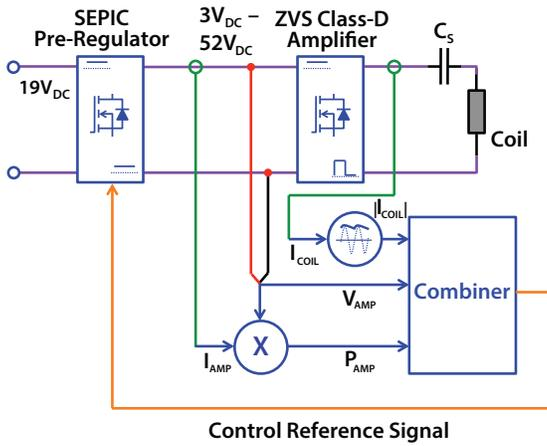
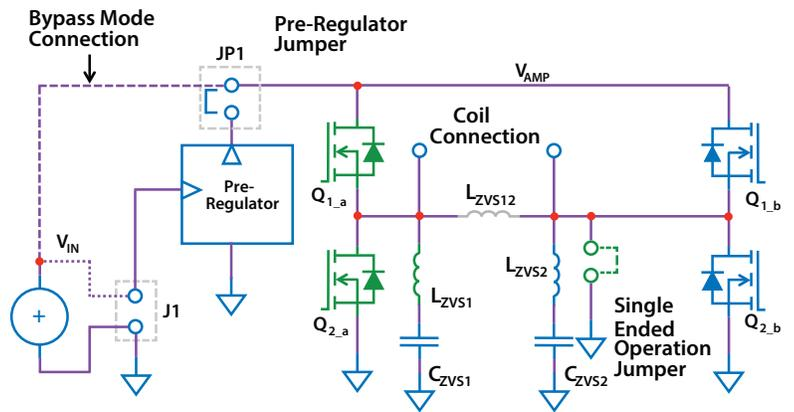

Figure 2: Block diagram of the EPC9509 wireless power amplifier.
Figure 3: Diagram of EPC9509 amplifier circuit.
Figure 2 shows the system block diagram of the EPC9509 ZVS class-D amplifier with pre-regulator and Figure 3 shows the details of the ZVS class-D amplifier section. The pre-regulator is used to control the ZVS class-D wireless power amplifier based on three feedback parameters 1) the magnitude of the coil current indicated by the green LED, 2) the DC power drawn by the amplifier indicated by
2. With power **off**, connect the **main** input power supply bus to J1 as shown in Figure 3. Note the polarity of the supply connector.
2. With power **off**, connect the **main** input power supply bus +VIN to the bottom pin of JP1 and the ground to the ground connection of J1 as shown in Figure 3.